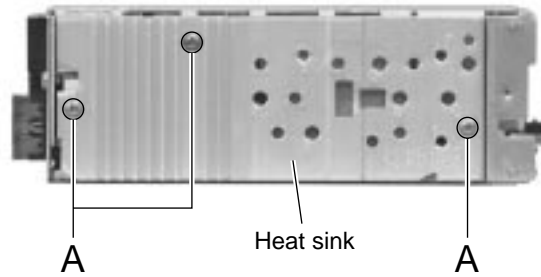

Fig.4
■ Removing the heat sink (See Fig.4)
■ Removing the head board (See Fig.4)
REFERENCE: When reassembling, twist the wires by turning the head board twice remarked **c** and pass through the notch **d** as shown in Fig.4.